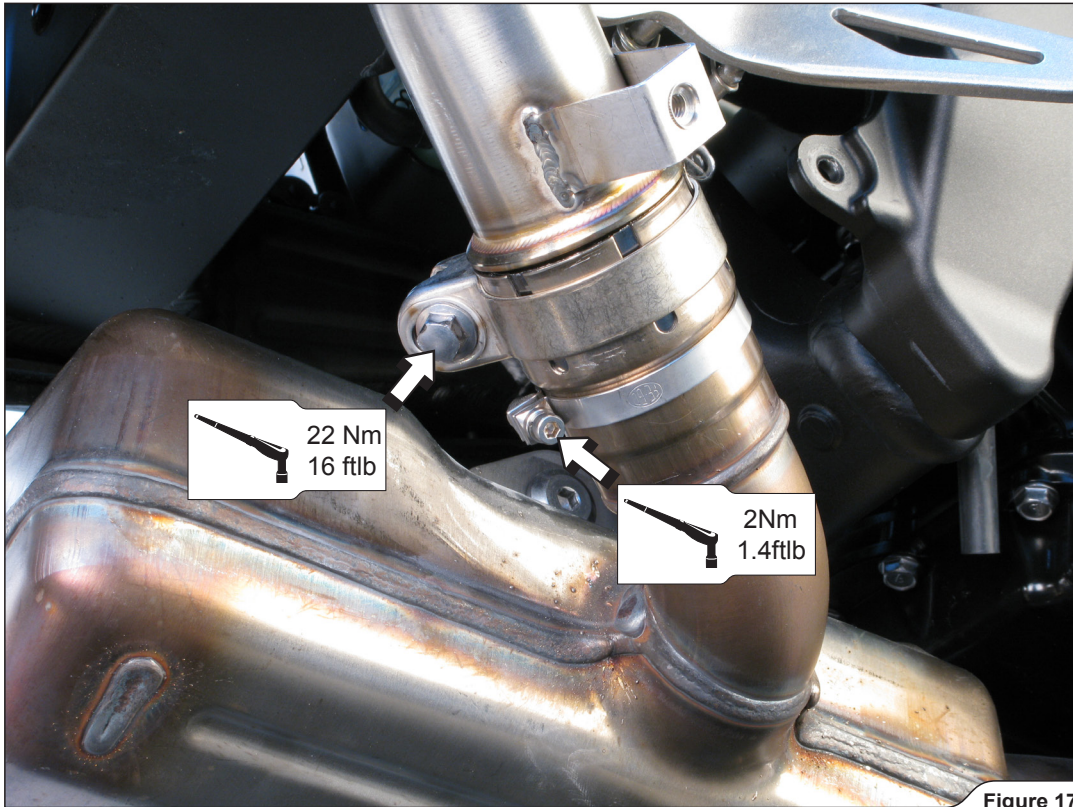

Figure 17
6. Attach the springs and tighten the clamps to a specified torques on both sides of the motorcycle (**Figure 17**).